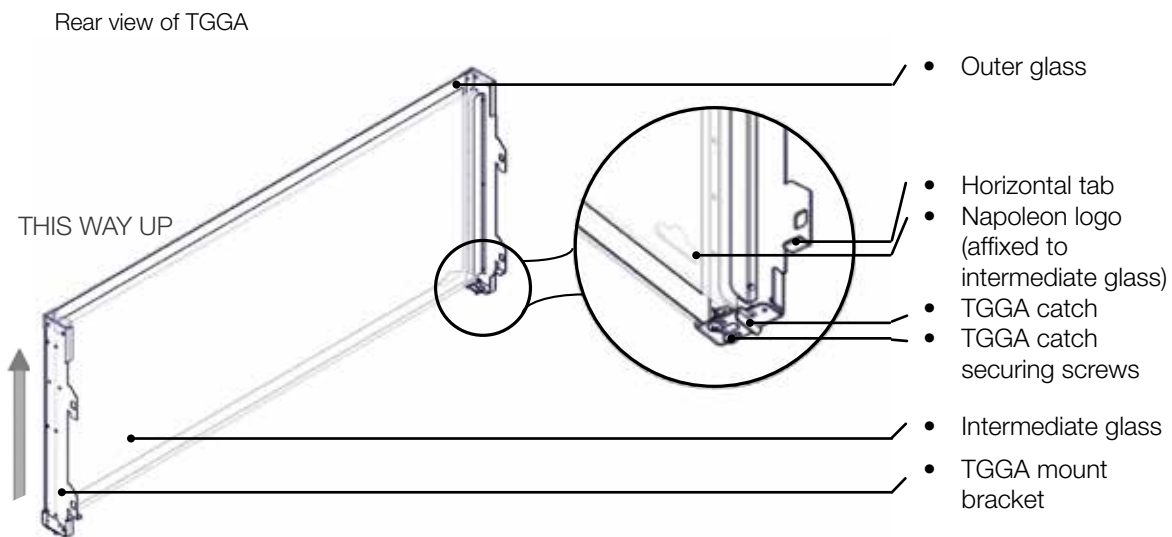

Fig. 1
2. Ensure to handle the TGGA as shown (**Fig. 1**) as the floating intermediate glass might fall out of the assembly if handled incorrectly.